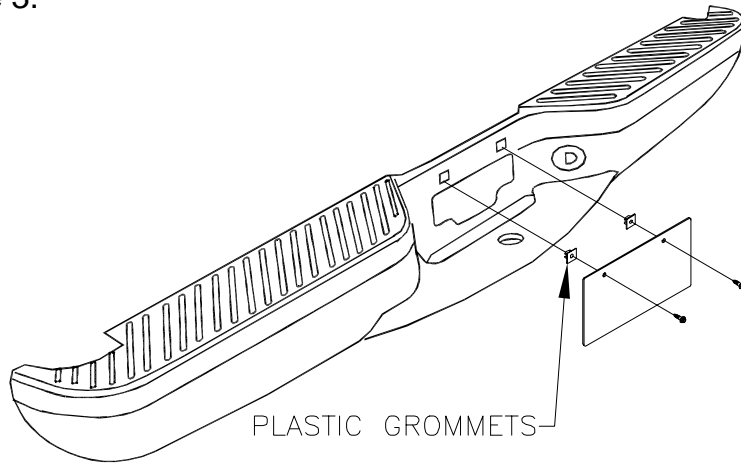

FIGURE 3
STEP 5: Position the bumper squarely to the tailgate. Allow ample clearance for the tailgate to open. Using a torque wrench tighten all (8) M14-2.0 Bolts to 85-95 foot-pounds (115-130 Newton-meters).
STEP 6: Use the square plastic grommets and screws to install the license plate. Refer to Figure 3.